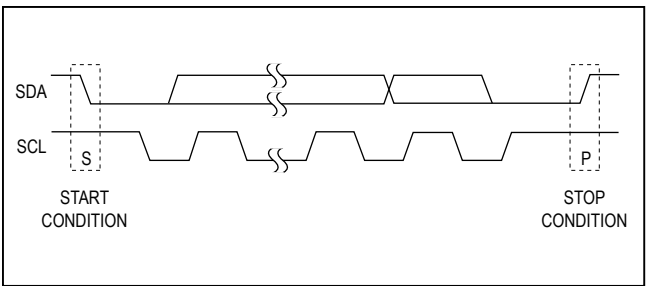

Figure 4. START and STOP Conditions
Each transmission consists of a START condition (Figure 4) sent by a master, followed by the MAX7328 or MAX7329 7-bit slave address plus R/W bit, a register address byte, one or more data bytes, and finally a STOP condition (Figure 4).
Both SCL and SDA remain high when the interface is not busy. A master signals the beginning of a transmission with a START (S) condition by transitioning SDA from high to low while SCL is high. When the master has finished communicating with the slave, it issues a STOP (P) condition by transitioning SDA from low to high while SCL is high. The bus is then free for another transmission (Figure 4).